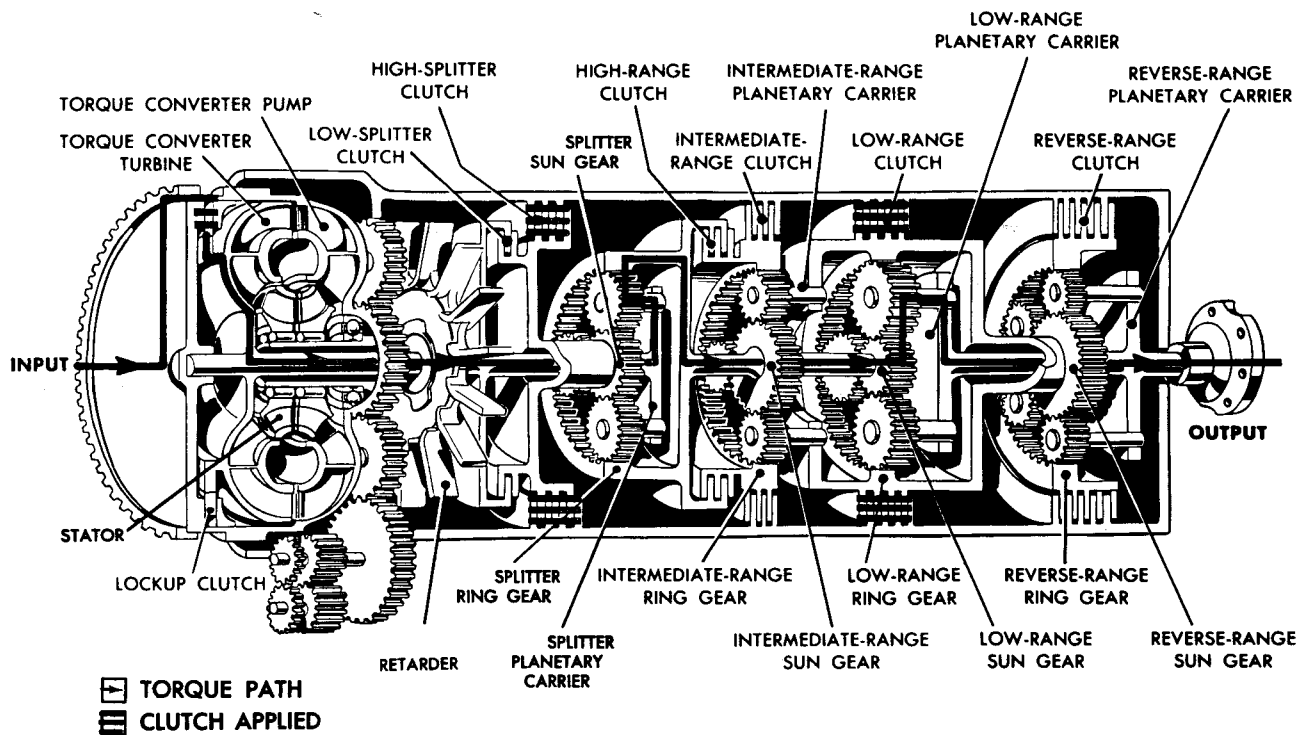

Fig. 2-5. Second gear (5660, 5860), high splitter, low range, lockup—torque path
d. Second Gear (5660, 5860)—Torque Path (fig. 2-5)
(1) The manual selector valve is in second-gear (2) position. The torque from the engine passes, through the applied lockup clutch, to the low-splitter clutch and splitter planetary carrier. The high-splitter clutch is applied. This holds the splitter sun gear stationary. This forces the pinions on the splitter planetary carrier to rotate around the stationary sun gear. The pinions overdrive the splitter ring gear, to which is attached the intermediate- and low-range sun gears.
(2) In addition to the high-splitter clutch, the low-range clutch is engaged. Refer to c(2), above, for explanation of power flow from the low-range sun gear to the transmission output shaft.
(3) The transmission output shaft rotates in a clockwise direction. A speed increase ratio of 0.67 to 1 in high splitter, coupled with a speed reduction ratio of 4.00 to 1 in the low-range planetary, gives an overall speed reduction of 2.68 to 1.